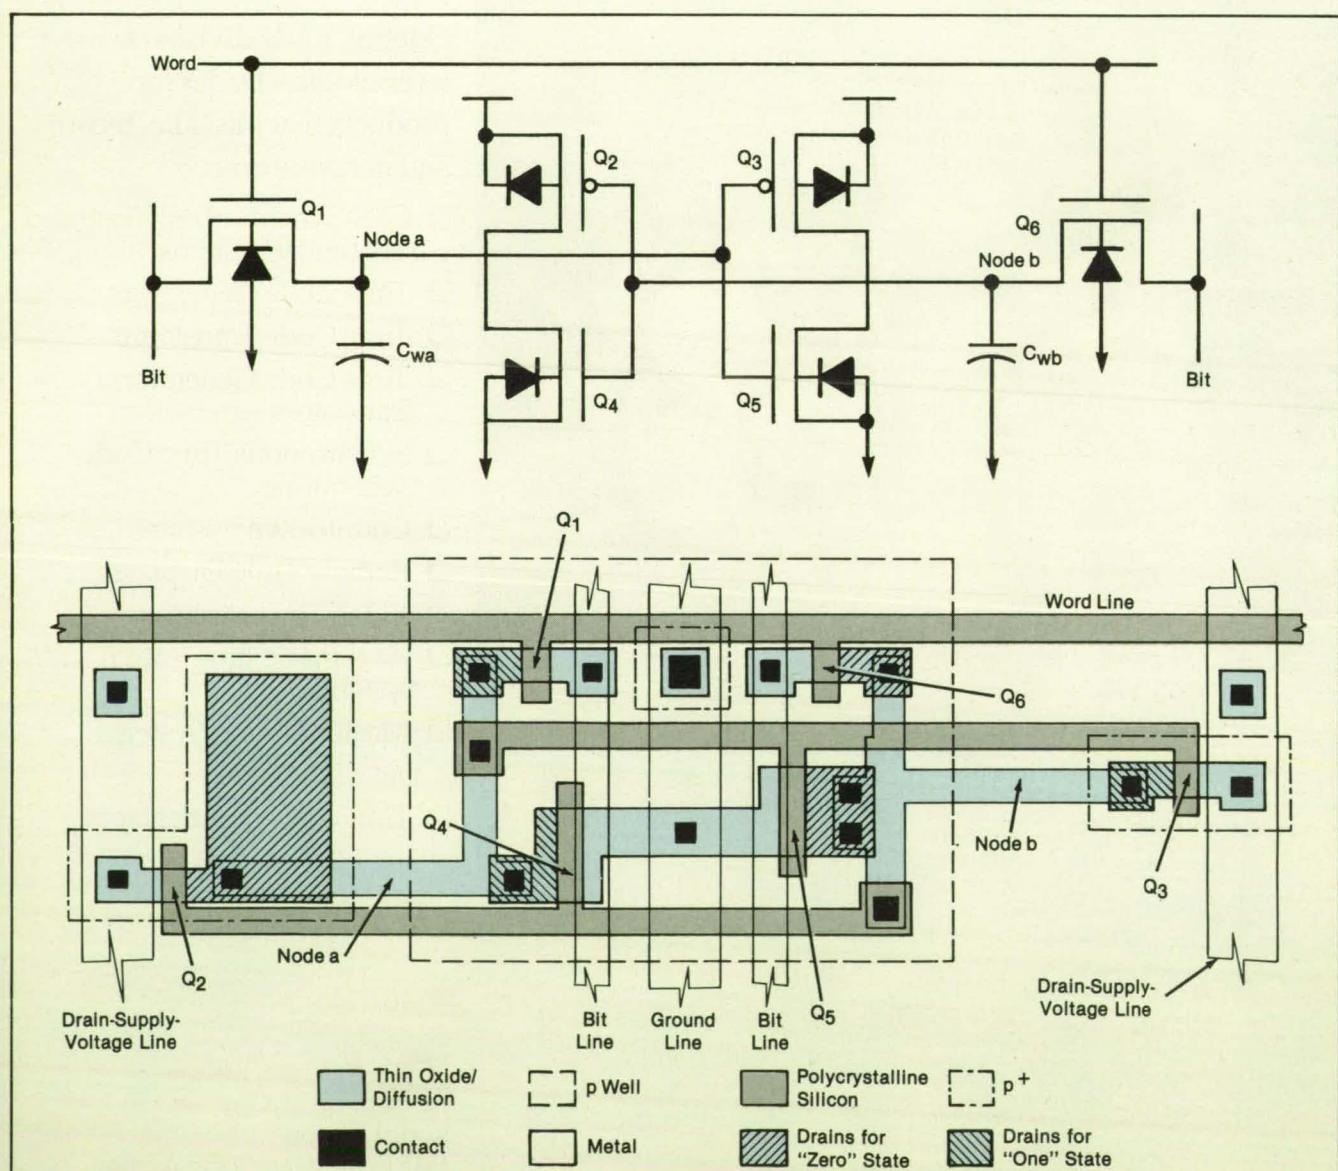

Figure 1. This Six-Transistor SRAM Cell was made in versions with different sizes of the areas sensitive to single-event upsets (cross hatched areas).
For example, in the SRAM cell of Figure 1, the rate of upsets can be increased by
The rates of upsets can be estimated by a state-space-analysis technique based on the use of a mathematical model of the memory cell with drains of various sizes. The technique is illustrated in Figure 2, where the horizontal and vertical axes represent the voltages on nodes  $b$  and  $a$  of Figure 1, respectively. If the voltage on node  $a$  is initially made higher than the critical voltage by a pulse of ionizing radia-
**Figure 2. State-Space Analysis** is used to analyze the single-event-upset behavior of a memory cell like that shown in Figure 1. When the voltage on node a is set at one of the indicated initial values  $V_{ao}$  and then released, the voltages on nodes a and b then follow the indicated trajectory to a final logic "one" or logic "zero" state.